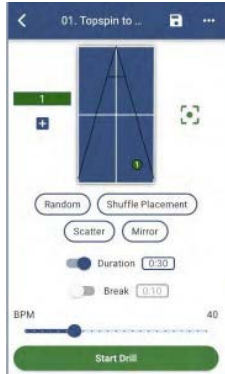

Figure 3-45
2. From the Drill Edit screen, press the Duration Toggle Switch to move it to the ON position. (Figure 3-45)